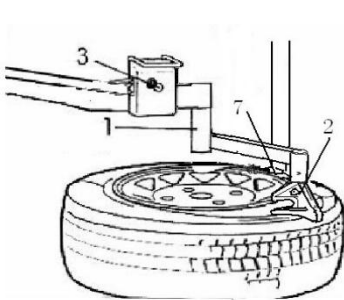

Fig 15
- a- Close the demount/mount head (7, Fig15) near from the tire as the manual stated. Move the rotating arm (1, Fig 15) to its working position.
- b- Move the tire pressing head (upper) (2, Fig 15) near from the demount/mount head, down the rise-fall switch handle to press the bead with the tire pressing head (upper) so as to place the demount/mount head. Insert the lifting lever according to the instruction of tire changer;